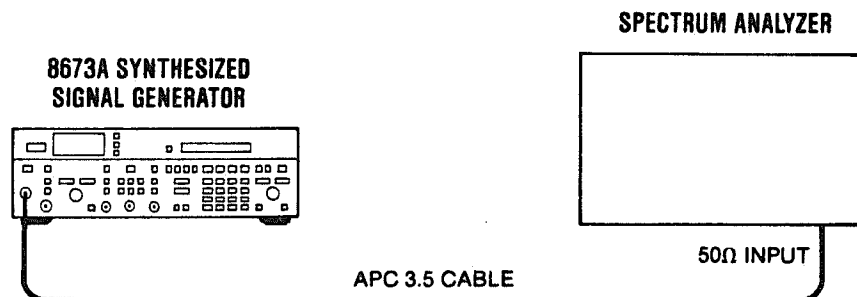

Figure 4-15. On/Off Ratio Tests
1. Connect the equipment as shown in Figure 4-15.